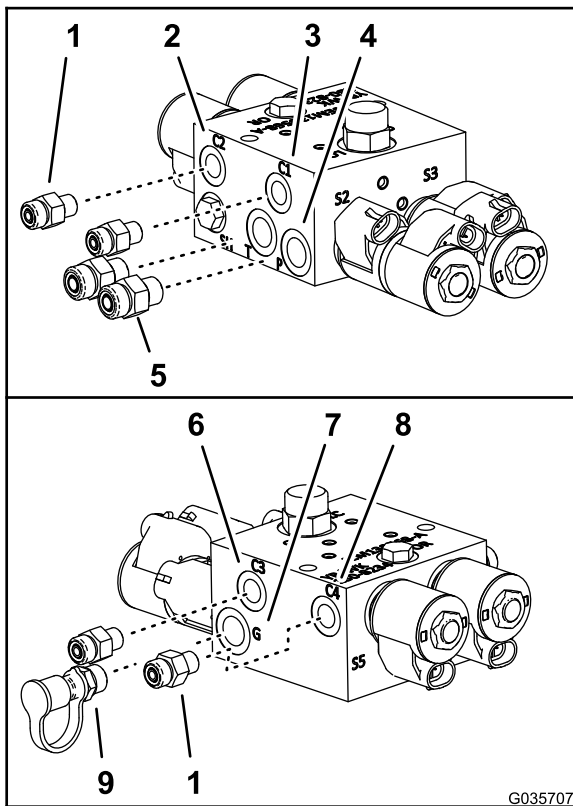

Figure 7
5. At the new lift-cylinder manifold, assemble the straight-hydraulic fittings (Figure 7) that you removed in step 3 into port-P and port-T.
- Assemble the 4 straight-hydraulic fitting from the ultra sonic boom leveling kit into ports C1, C2, C3, and C4 of the new lift-cylinder manifold (Figure 7).
- Assemble the diagnostic fitting and cap that you removed in step 4 into port-G of the new lift-cylinder manifold (Figure 7).